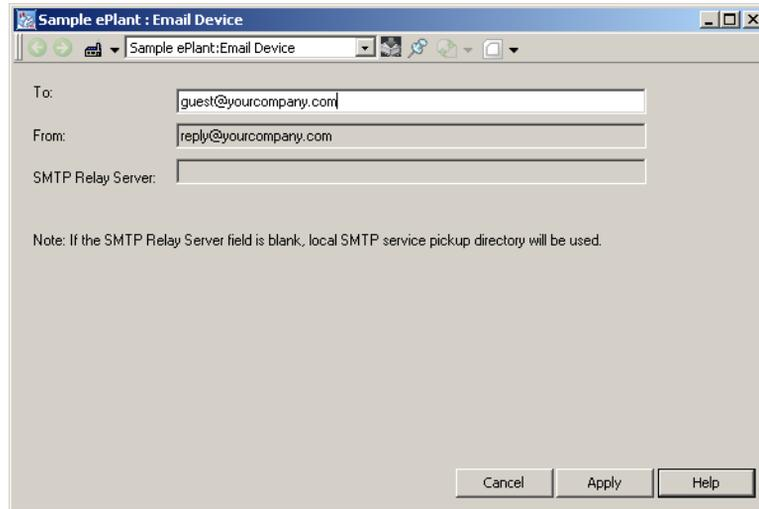

Figure 105. SMTP/Email Device
16. Enter the e-mail address for the user in the To: field to produce a view similar to the one shown in Figure 105. The information in the From: and SMTP Relay Server: (if desired) fields were configured in the Aspect System Structure under Email Device on page 199.